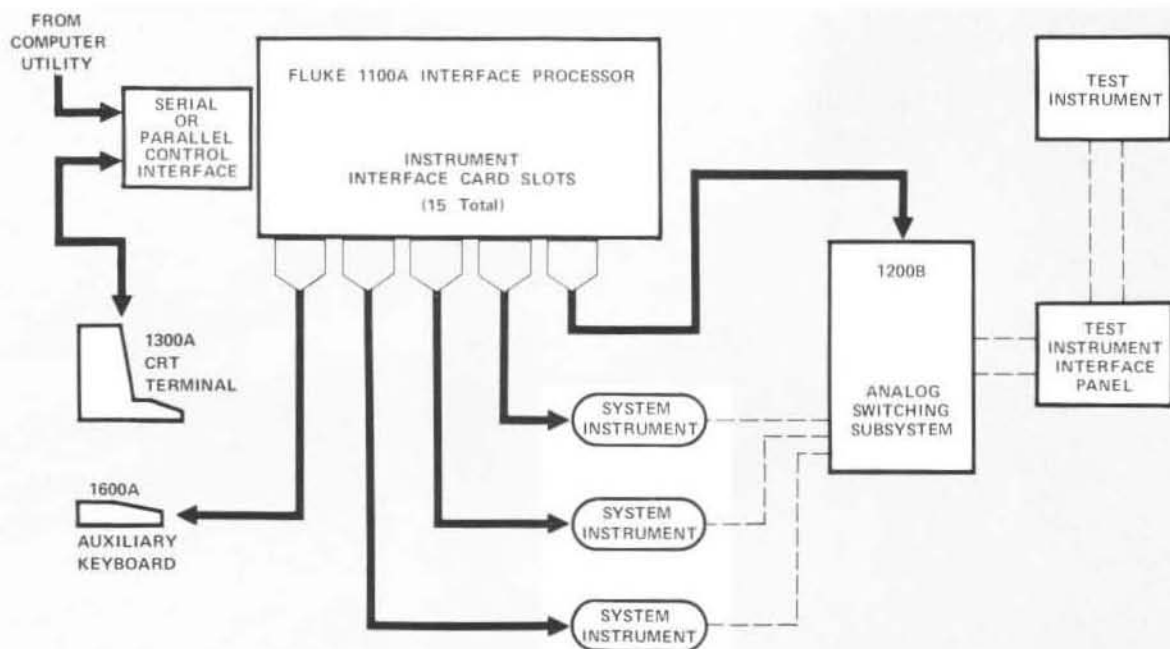

Figure 2. Calibration Station Block Diagram
Figure 2 illustrates the hardware organization of a typical calibration station. Each instrument in the station is interfaced to the computer through the Fluke 1100A Interface Processor. The 1100A, with up to fifteen instrument interface cards, translates commands received from the computer into specific instrument actions. Interconnection of stimulus and measurement instruments, as well as the Test Instrument (TI), is provided by the Fluke 1200B switching subsystem.